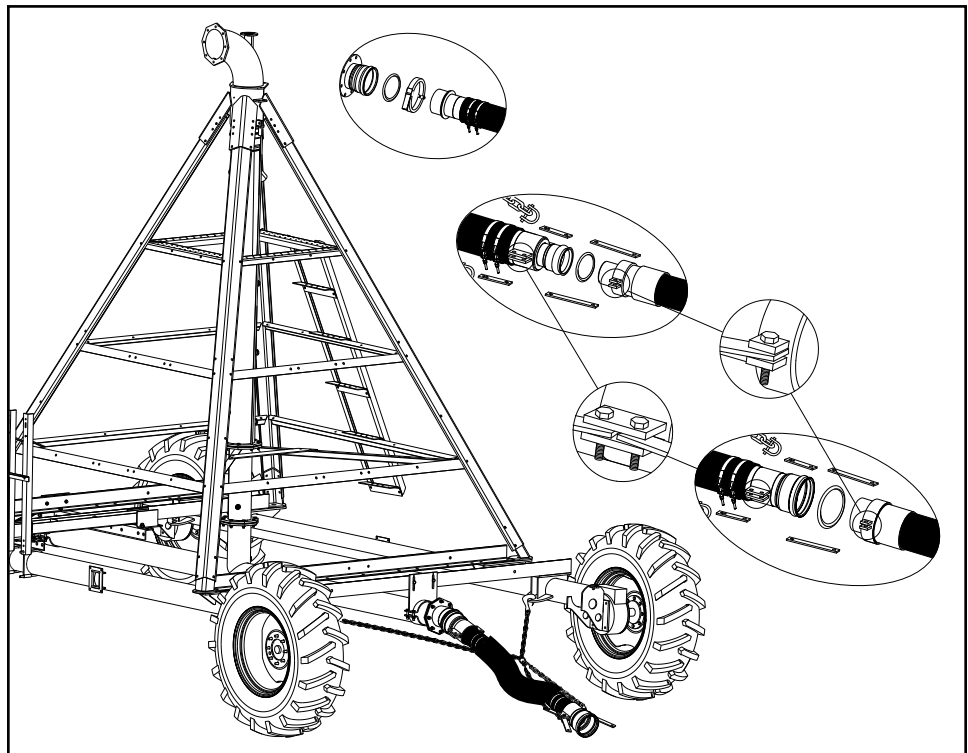

Figure 51-2 Center Inlet Hose Couplers, Soft hose and Chains
- The center inlet uses soft hose on the inlet end of the hose. See Figure 51-2.
- Soft hose requires the use of chains to pull the poly hose. See Figure 51-2.